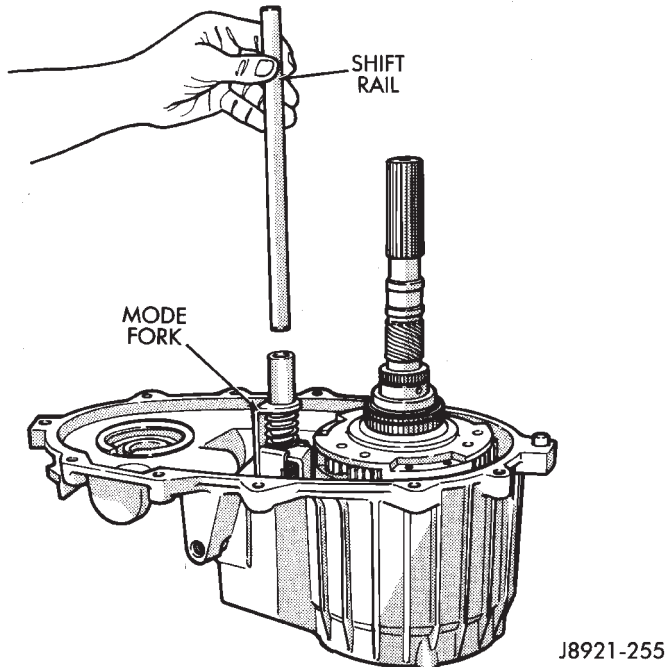
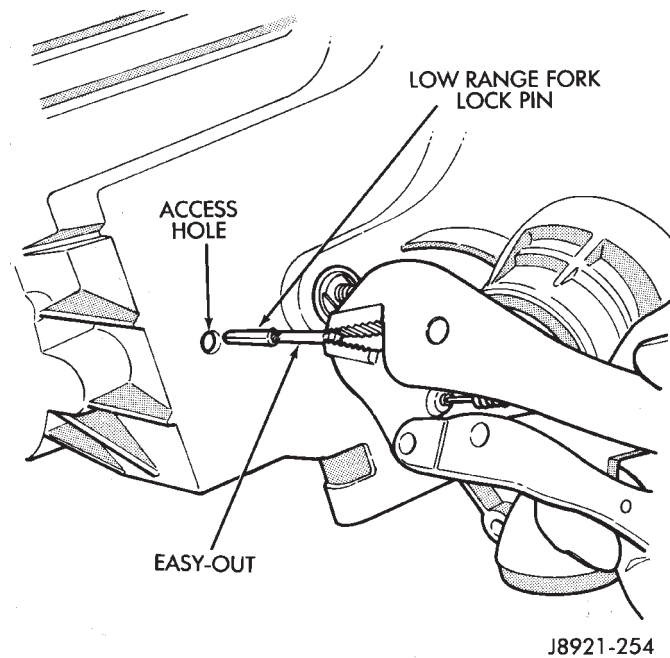

Fig. 80 Shift Rail Installation
Fig. 81 Installing Low Range Fork Lockpin
(17) Rotate mode fork pin into shift sector slot.
(18) Install shift rail (Fig. 80). **Be sure rail is seated in both shift forks.**
(19) Rotate shift sector to align lockpin hole in low range fork with access hole in case.
(20) Insert an easy-out in range fork lockpin to hold it securely for installation (Fig. 81). **Lockpin is slightly tapered on one end. Insert tapered end into fork and rail.**
(21) Insert lockpin through access hole and into shift fork (Fig. 81). Then remove easy-out and seat the pin with pin punch.